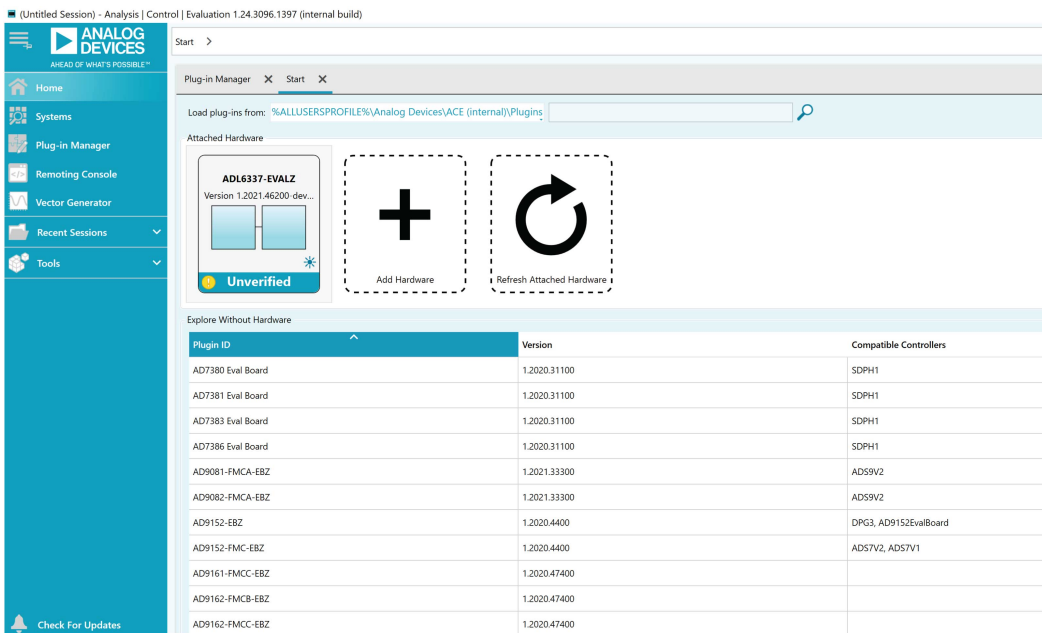

Figure 5. Initial ACE Start Page
3. Launch the ACE application. This action displays the initial ACE start page as shown in Figure 5. The ADL6337-EVALZB is detected automatically and displays under Attached Hardware. The current at 5.0 V consumes around 360 mA as soon as
4. Click the ADL6337-EVALZB icon shown in Figure 5 to open the evaluation board level view.